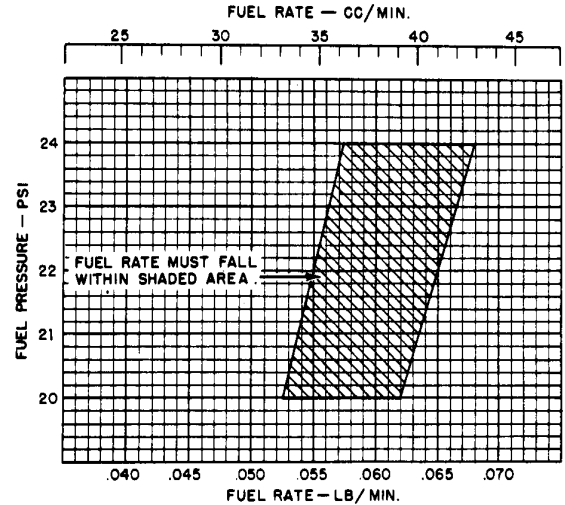
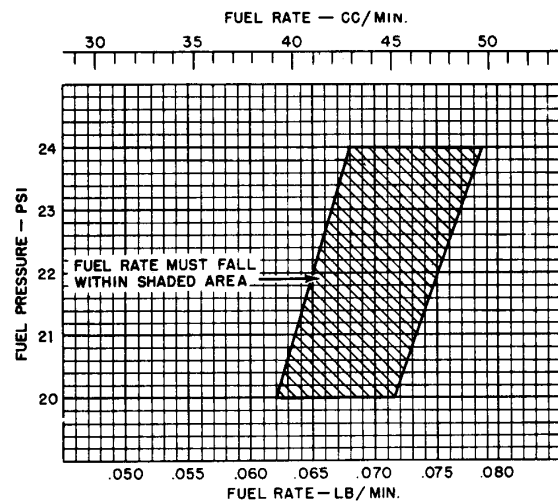

Figure 13 - Fuel Rate, 8240 Series Heater
Figure 14 - Fuel Rate, 8259 Series Heater
5. With fuel flowing, read fuel flow rate on the flowmeter, or conduct a timed test-run with a calibrated, or weighed, amount of fuel to determine fuel rate. Fuel rate must be within the shaded area in Figure 13 or Figure 14 depending on heater model,